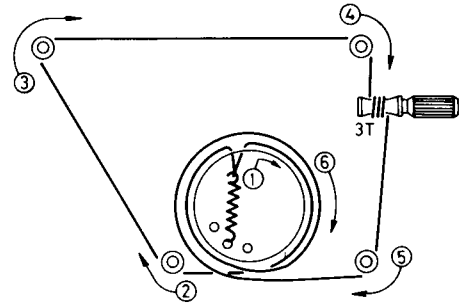

Fig. 14
3. Fit the cord in numerical order as shown in Fig. 14.